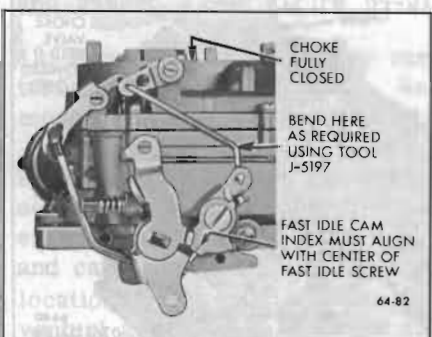

Figure 64-63—Fast Idle Cam Adjustment
4. Adjust Fast Idle Cam Position. With choke valve held fully closed, open throttle slightly to allow fast idle cam to spring to a neutral position. Now index mark on fast idle cam must align with center of fast idle screw. If mark does not align, bend fast idle rod using Tool J-5197 as required to make mark align. See Figure 64-63.